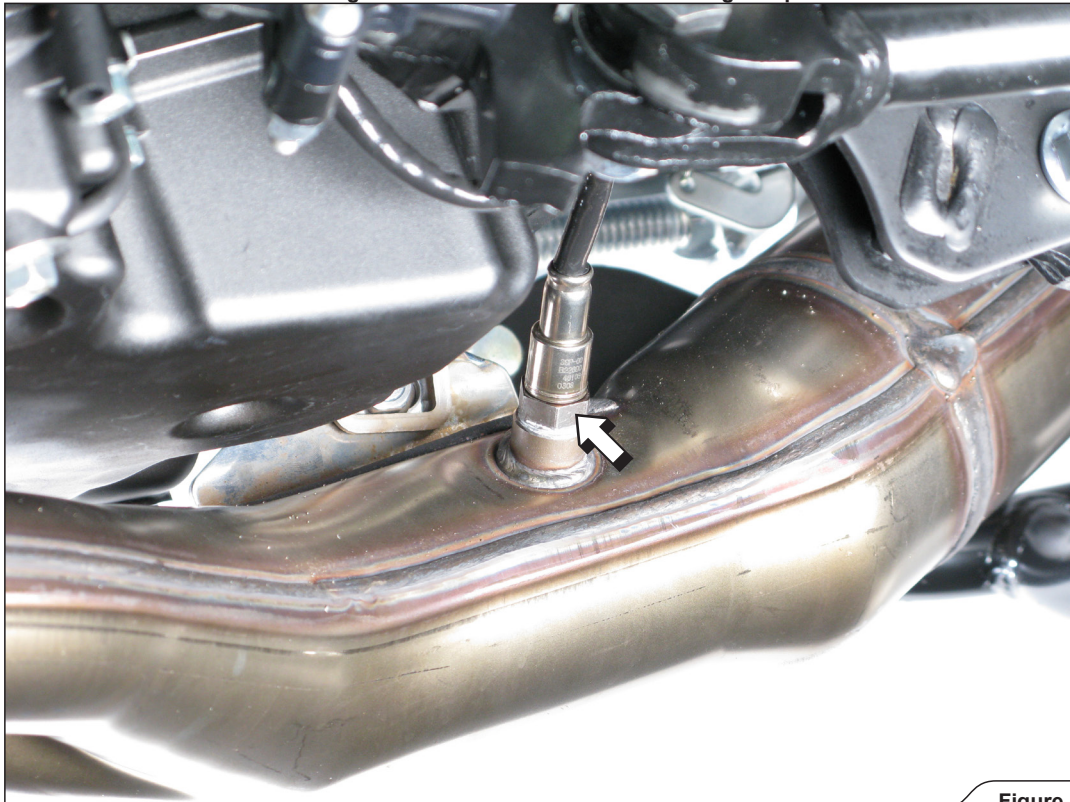

Figure 1
2. Unscrew the lambda sensor (**Figure 1**).